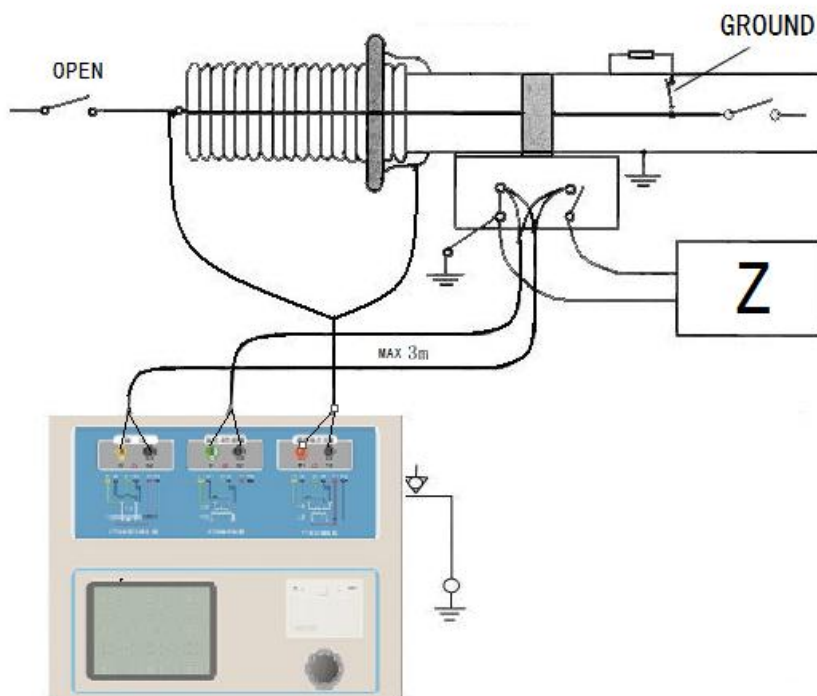

Figure D.4 VKGZ-HII CT PT Analyzer on GIS (SF6) switch on the test at the time of CT Connection
4. VKGZ-HII CT PT Analyzer in the GIS (SF6) switch on the wiring of the CT test mode as shown in Figure D.4. NOTE: Disconnect all connected with the bus switch, grounding switch closed.